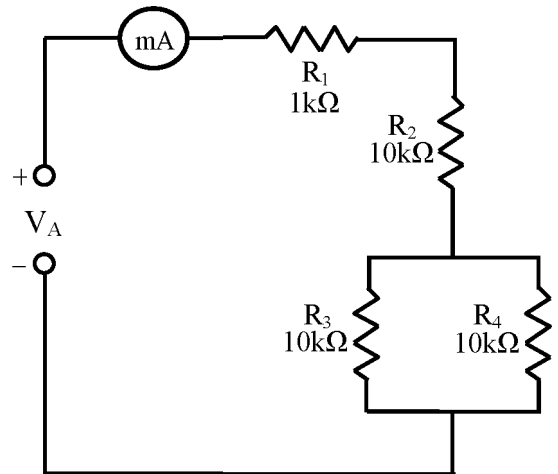

Figure 21-1
1. Connect the circuit as shown in Figure 21-1.